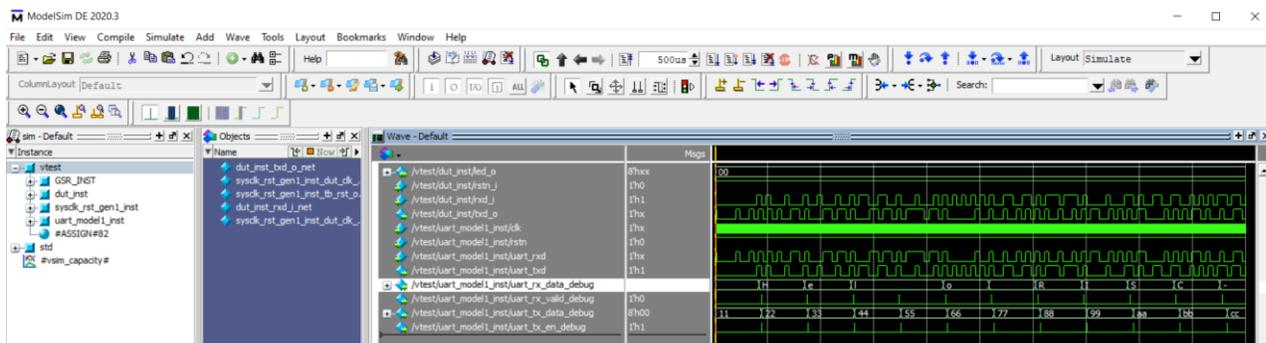

Figure 3.34. Waveform of Hello World Project
4. ModelSim is launched running simulation for the SoC verification project. The corresponding waveform of the SoC verification project for the Hello World project is shown (Figure 3.34). Check the waveform.
The Hello World Project is designed to print some strings using a top-level UART port. The testbench instantiates a UART model to receive these data. Each byte (refer to `uart_rx_data` shown in Figure 3.34) can be checked using ASCII format. Meanwhile, this UART model also supports sending the data to Design Under Test (DUT). The data is stored in a text file and is enabled by the `STIMULUS_GEN` parameter.